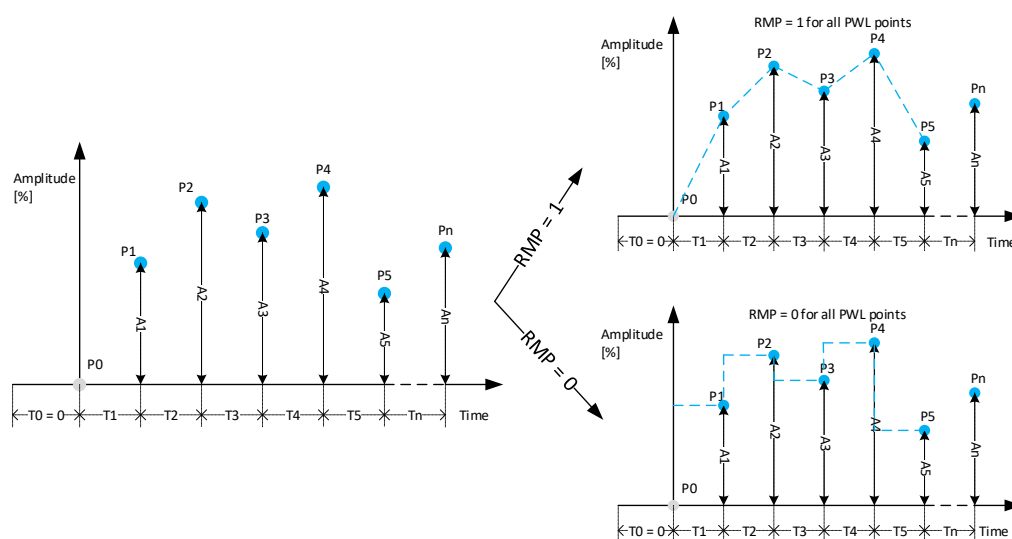

**Figure 26: Snippet Example**
A generic example of a snippet is shown in Figure 26. Pn represents the PWL pair located at amplitude An and with time step Tn, where n represents the PWL pair number. Note that a snippet played at the start of a non-looped sequence will start from a default point P0 set at zero amplitude; however, if the snippet is not at the start of a sequence or is read during the looping of a sequence, the starting point will be the last played PWL point.
| 2           | SNP_ID_LOOP[3:0]         | SNP_ID_LOOP is the loop multiplier of the snippet identified by SNP_ID_L/H and shows how many times a snippet is looped. If not present, the loop multiplier is 1. The number of loop iterations is equal to SNP_ID_LOOP + 1 (that is, 0 = 1 iteration, 15 = 16 iterations). When the loop multiplier is > 1, playback begins from P1 instead of P0, see <a href="#">Figure 26</a> , after the first playback loop is complete. |
**Note:** The starting amplitude at the beginning of a frame or snippet is dependent on the ending amplitude of the previous frame or snippet. The starting amplitude at the start of a sequence is zero, see Figure 26.